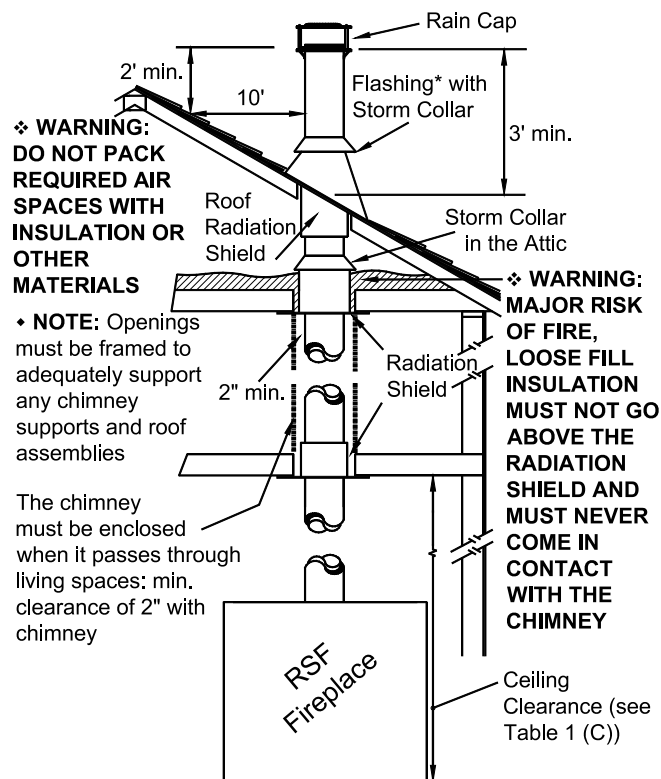

Figure 13 General Chimney Installation
2. From below, install a radiation shield in each floor through which the chimney passes. At the attic level, install a radiation shield and a storm collar as shown in Figure 13